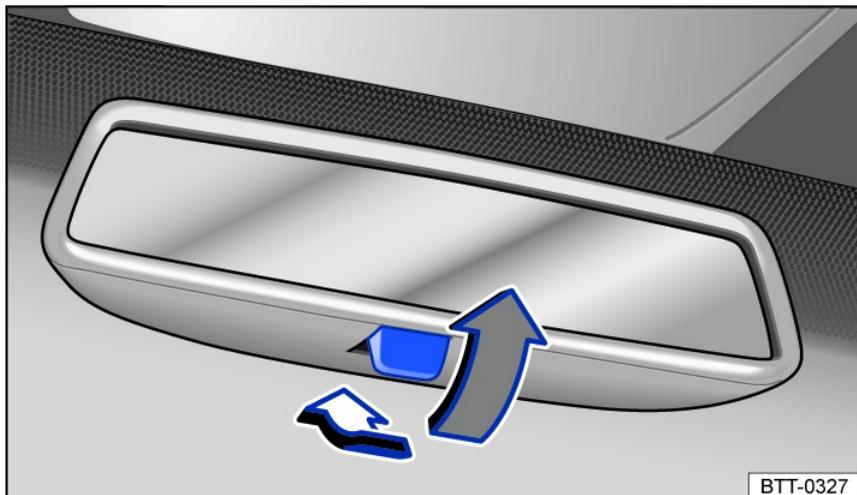

Fig. 103 On the windshield: manual dimming rearview mirror.
- To dim, pull the lever back *fig. 103*.